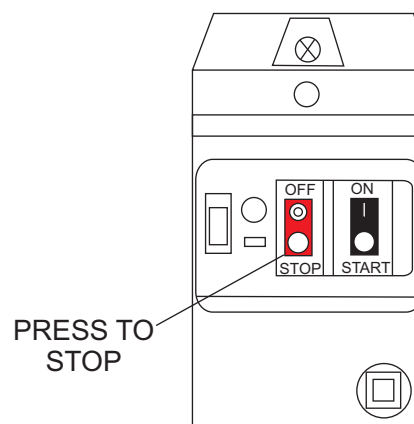

Figure 31. Electric Motor On/OFF Switch (Stop)
1. To stop the electric motor, press the **red OFF/STOP** switch (Figure 31).